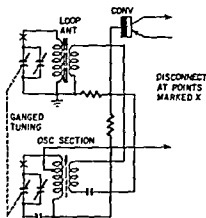

Fig. C-4 Check scraping capacitor plates by disconnecting leads at points marked X and shunting the capacitor with an ohmmeter
2. Clip one lead of an ohmmeter to the stator and the other lead to the rotor of a section. Turn the capacitor the full arc until the meter shows which section is shorting. Often one or more portions of a section may be shorting. See Fig. C-4.
A single transistor, as shown in Fig. C-4, can perform the dual functions of mixer and local oscillator and is then known (just as in the case of a vacuum tube) as a converter. Unlike vacuum tube circuits, however, transistor local oscillator voltage cannot be measured by checking the dc drop across a resistor. An rf vtvm must be used to determine the amount of local oscillator voltage developed. (In either vacuum tube or transistor receivers, failure to develop local oscillator voltage means no sound out of the speaker.) If an rf vtvm is not available, set the dial of the receiver to a strong station and turn up the volume control. Loosely couple